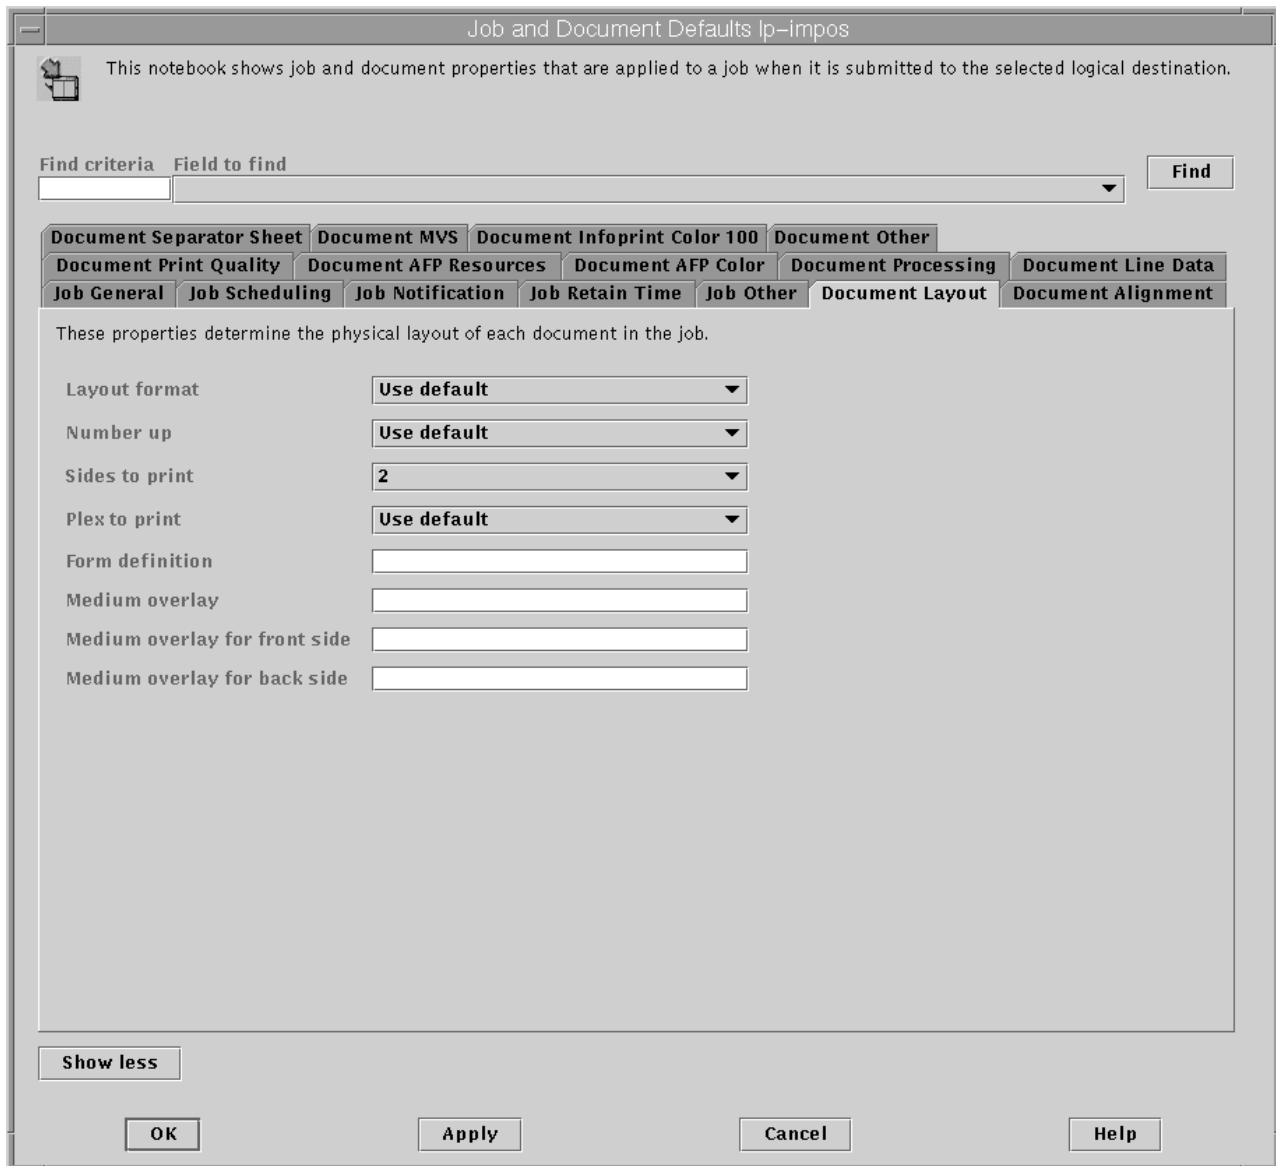

Figure 76. Document Layout tab view
- d. From the **Document Layout** tab view, you can specify duplex jobs by defining the Sides to print field (the **Sides** attribute) as 2 and allowing all other attributes to take the default, as shown in Figure 76 on page 347.